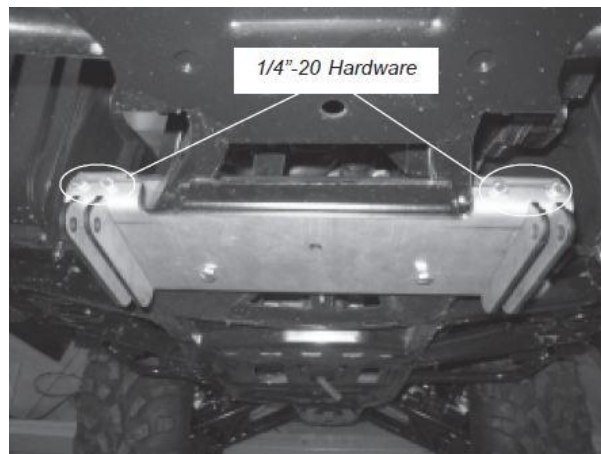

Figure 6
7. Assemble the clamp bracket (A2) to the plow mounting bracket (A1) using four  $\frac{1}{4}$ "-20x1" hex head bolts (B1), four  $\frac{1}{4}$ " flat washers (B2) and four  $\frac{1}{4}$ "-20 lock nuts (B3) (Figure 6).